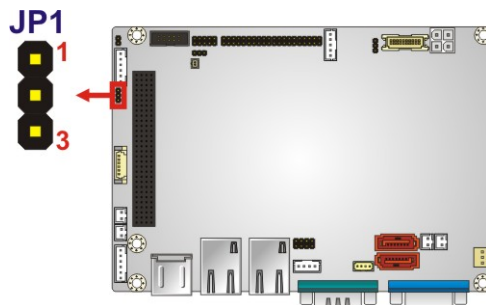

Figure 4-4: PCI-104 VIO Voltage Selection Jumper Location
- Jumper Location:** See Figure 4-4